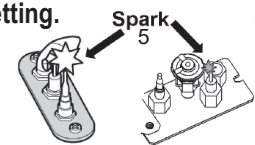

Fig 3
2. SET ON/OFF SWITCH (1) TO “OFF” POSITION.
- Wait five (5) minutes to clear out any gas, then smell for gas, including near the floor. If you smell gas, STOP! Follow “B” in the safety information above on this label. If you don’t smell gas, go to the next step.
3. AUTOMATIC IGNITION (fig. 1): Locate the pilot (fig 3.) inside of firebox.
- ON/OFF switch (1) in ON position, MAN-knob (2) in ON position; set Flame Adjustment knob (3) to lowest setting (∩)
- When the pilot is lit, the Flame Adjustment knob (3) will automatically rotate to the highest setting.
4. MANUAL IGNITION (fig. 2): With the window off, locate pilot (fig. 3) inside firebox;
- ON/OFF switch (1) in ON position, MAN-knob (2) in MAN position;
- Set Flame Adjustment knob (3) to the lowest setting (∩);
- Push down the metallic core (4) with a pen or similar instrument; this will establish the pilot gas flow;
- Light gas at the pilot (5) with a match;
- Continue holding down metal core (4) for about 10 seconds; after release, pilot should remain lit;
- If the pilot will not stay lit after several tries, turn the gas control knob (3) to “OFF” (∩) and call your local service technician or gas supplier.
- Reinstall the window and set the MAN-knob (2) to “ON”; turn Flame Adjustment knob (3) up (∪) or down manually or use the up/down ‘flame’ buttons on the remote control handset to adjust the flame height.